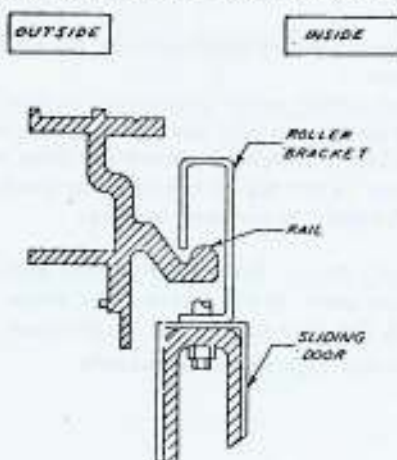

FIG. 17 Hanging door on rail.
3. Hang the door with the roller brackets hooked behind the rail in the header (see FIG. 17).